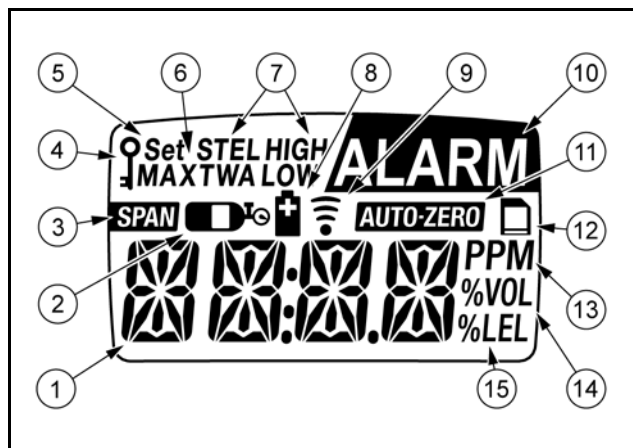

Figure 2. Display Elements
- Figure 2 and Table 4: Display Elements